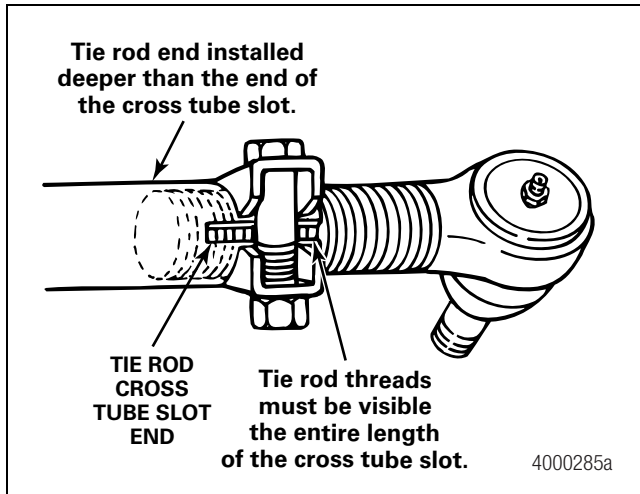

Figure 6.21
- Check that the tie rod end is threaded correctly into the cross tube and installed deeper than the end of the cross tube slot. The tie rod end must be visible the entire length of the cross tube slot. Figure 6.21.